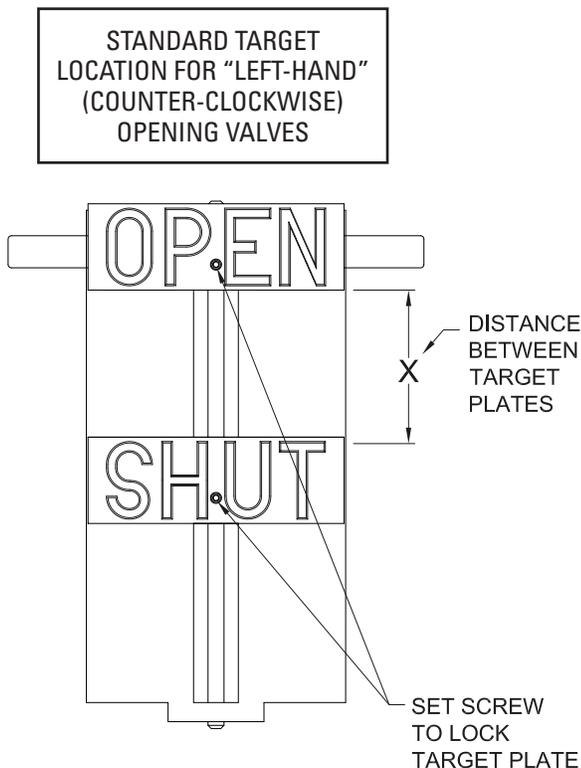

Fig. 6
- 4.5 Position OPEN Target Plates (8) so they are in the full upward position for “left-hand” (counter-clockwise) opening valves. Secure OPEN Target Plates (8) by tightening Screws (37a). See Fig. 6.
- 4.8 Measure and position both SHUT Target Plates (9) at dimension “X” from OPEN Target Plates (8). See Fig. 6.